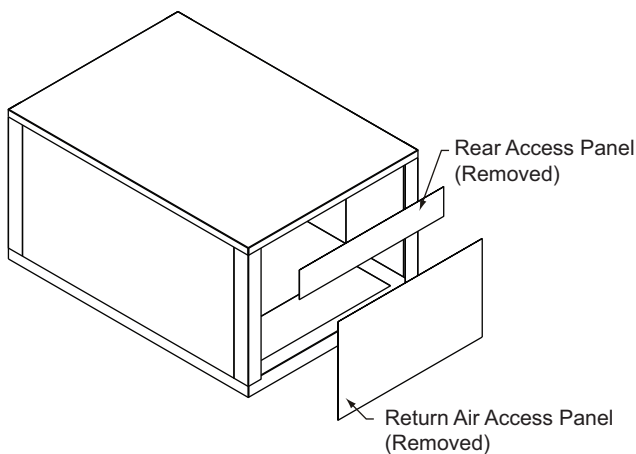

Fig. 44 — Remove Access Panel(s) from Unit
5. Remove the return air access panel from unit and the rear access panel(s) if applicable as shown in Fig. 44.